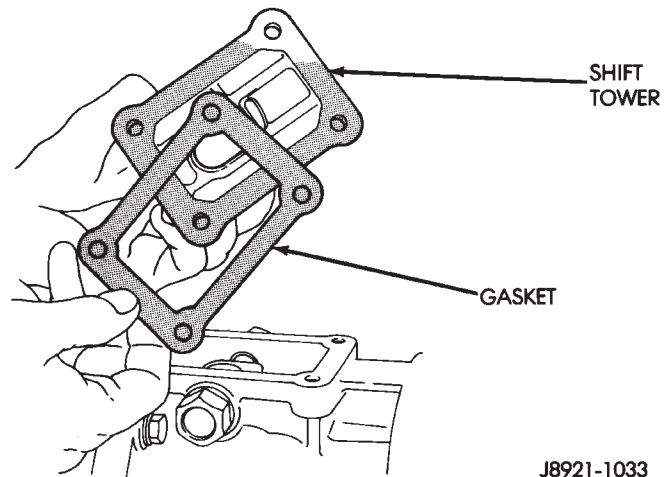

Fig. 18 Remove Shift Tower Gasket
- (7) Remove shift tower gasket from shift tower or transmission case (Fig. 18).